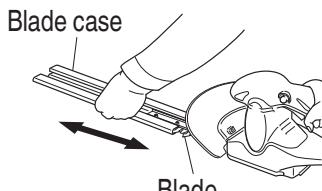

Fig. 6
### 3. Blade case (Fig. 6) (Standard accessory with CH10DL (CG), CH10DL)